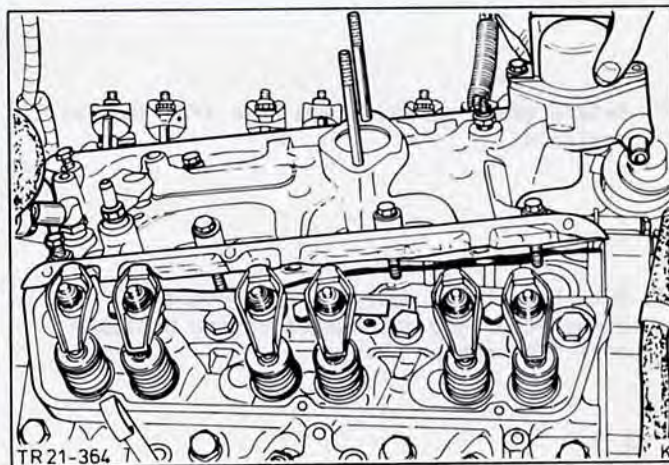

Fig.78. Remove inlet manifold.
14. Remove inlet manifold (8 bolts), Fig.78.